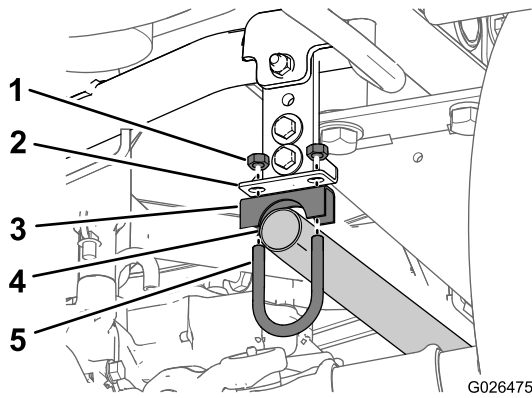

Figure 11
3. At the open end of the exhaust pipe, support the pipe by loosely assembling a U-bolt (1-1/4 inch), saddle bracket (1-1/4 inch), and 2 nuts to the pipe and exhaust-pipe bracket (Figure 11).
Note: Do not tighten the clamp at the exhaust-pipe bracket (Figure 11).